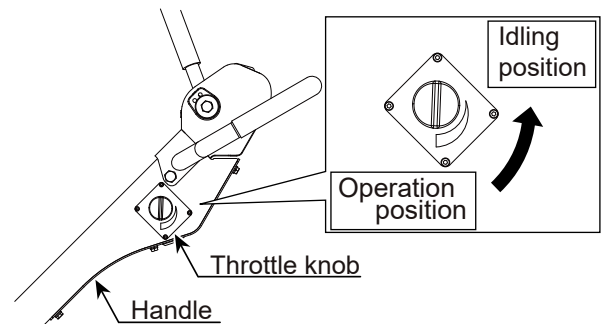

Figure 54. Throttle Lever (IDLE)
2. Move the throttle lever to the **IDLE** position (Figure 54).